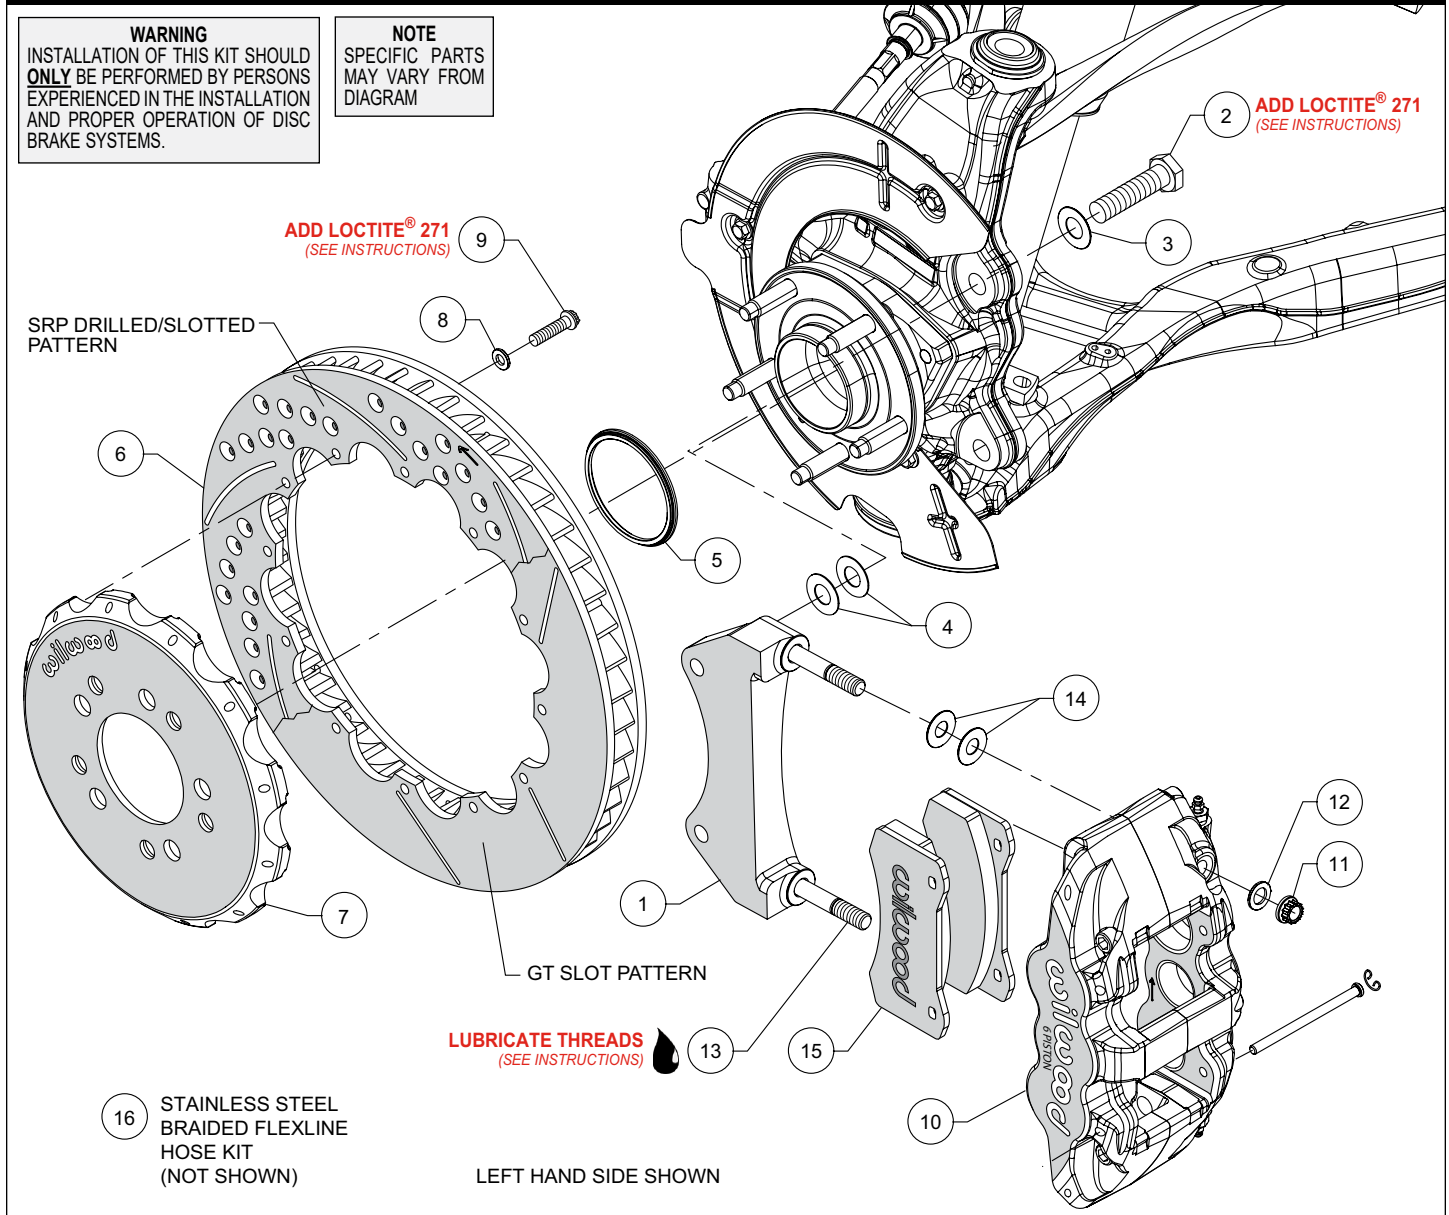
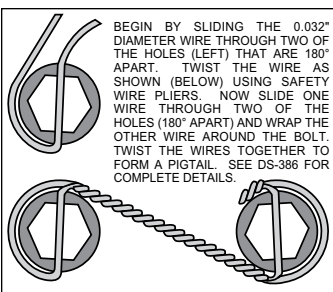

Figure 1. Typical Installation Configuration
Figure 3.
NOTE: Numbers in parenthesis refer to the parts list and Figure 1 on the preceding pages.
- The caliper mount bracket (1) should initially be installed with clean, dry threads on the mounting bolts. Orient the bracket as shown in Figure 1, and Photo 1 and install using bolts (2) and washers (3). Initially place two .029" thick shims (4) on each bolt between the bracket and upright, Figure 1. Temporarily tighten the mounting bolts. **NOTE:** *The bracket must fit squarely against the mount bosses on the upright.* Inspect for interference from casting irregularities, machining ridges, burrs, etc. Later, after the caliper alignment has been checked, the mount bolts will be secured using red *Loctite*® 271.
- Orient the rotor (6) and the hat (7) as shown in Figure 1 and Photo 2. Attach rotor to hat using bolts (9) and washers (8). Apply red *Loctite*® 271 to the bolt threads and torque to 155 in-lb using a criss-cross pattern. For an added measure of security, the bolts may be safety wired using standard 0.032 inch diameter stainless steel safety wire as shown in Figure 3. Please refer to Wilwood's data sheet DS-386 (available at www.wilwood.com/Pdf/DataSheets/ds386.pdf) for complete safety wire installation instructions.
- Slide the rotor registration adapter (5) onto the axle register on the axle hub with the smaller O.D. facing outward, Photo 3. Slide the hat/rotor assembly onto the axle hub. **NOTE:** *The hat must fit flush against the axle hub flange or excessive rotor run out may result.* Install three lug nuts (finger tight) to keep the hat/rotor assembly in place while continuing with the installation, Photo 4.
- NOTE:** *This kit contains distinct right and left hand calipers that must be mounted in a specific direction, as described below.* Lubricate the caliper mounting studs (13) with lightweight oil. Initially place two .030" thick shims (14) on each stud as shown
in Figure 1 and Photo 5. Mount the caliper (10) onto the bracket (1) using lock nuts (11) and washers (12), Figure 1. Ensure that the caliper is mounted so that the largest pistons are at the rotor exit end of the caliper, in relation to the direction of rotor rotation. Temporarily tighten the lock nuts and view the rotor through the top opening of the caliper. The rotor should be centered in the caliper, Photo 6. If not, adjust by adding or subtracting shims (4) between the bracket and the upright. Always use the same amount of shims on each of the two mounting bolts. Once the caliper alignment is correct, remove the bracket mounting bolts (2) one at a time, apply red *Loctite*[®] 271 to the threads, and torque to 77 ft-lb.
- Remove the two pad retaining pins from the caliper (10) by carefully popping out the pin retaining clips and sliding out the pins. Insert the brake pads (15) into the caliper from the bottom, Figure 1 and Photo 7. With the friction material facing the rotor, secure the brake pads in place with the pad retaining pins and clips, Photo 8. Reinstall the caliper onto the caliper mounting bracket and temporarily tighten the lock nuts. Check that the top of the brake pad is flush with the outside diameter of the rotor, Photo 9. If not, adjust by adding or subtracting shims (14) between the caliper and the bracket. After the caliper pad height is set, torque the caliper lock nuts (11) to 47 ft-lb.
- **NOTE:** OEM rubber brake hoses generally cannot be adapted to Wilwood calipers. The caliper inlet fitting is a 1/8-27 NPT (use PTFE tape on pipe threads for proper sealing to caliper). Install Wilwood's stainless steel braided flexline hose kit (16), P/N 220-9100 included with this kit as shown in Photo 10. **Carefully route hoses to prevent contact with moving suspension, brake or wheel components.** **NOTE:** Wilwood hose kits are designed for use in many different vehicle applications and it is the installer's responsibility to properly route and ensure adequate clearance and retention for brake hose components.